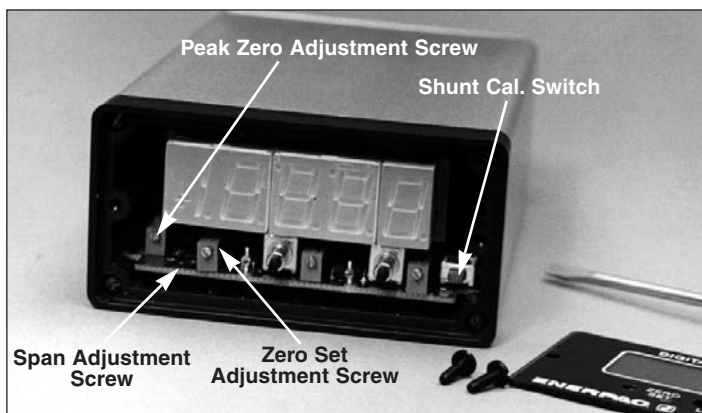

Figure 19
4. Apply a load (10,000 psi) to the tester. Check the gauge reading, it should match the load value. If not, adjust the span adjusting screw until the display is correct (Figure 19).
1. The peak limit gauges should display all zeros when the peak control switch is moved from left to right position and no pressure applied. If the display shows anything else adjust the peak zero adjustment screw (Figure 19).
2. Remove the face plate. Connect the power supply and the transducer. With no pressure on the system, adjust the speak zero adjusting screw (furthest adjusting screw on left side, Figure 19) until gauge reads all zeros with toggle switch in right position.